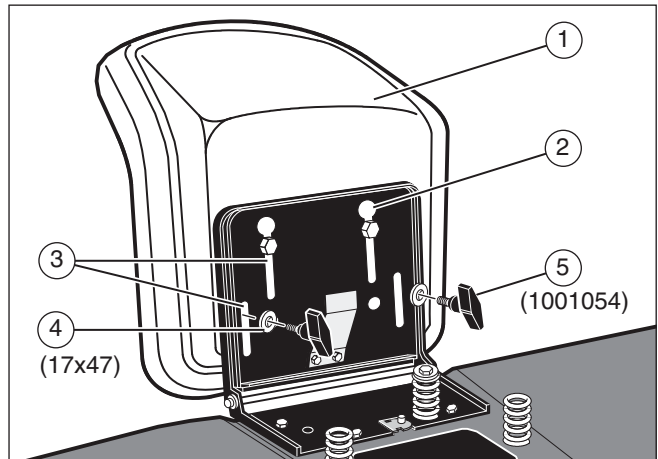

Figure 2
2. Align the holes in the seat hinge (2) to the holes in the seat (1) (see **Figure 2**). Fasten the seat to the seat hinge (2) with the fasteners (4) and (5).
3. Check the operating position of the seat (1). If the seat needs to be adjusted, loosen the two wing bolts (5). Slide the seat forward or backward along the seat adjusting holes (3). Tighten the wing bolts.